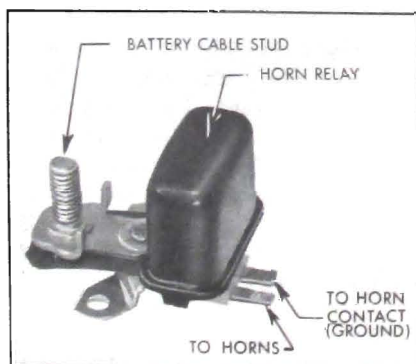

Figure 10-62—Horn Relay and Junction Block Assembly
3. If horns still do not blow when wire at mast jacket is grounded, unplug double connector from horn relay part of junction block assembly which is mounted on right fender skirt. See Figure 10-62. Then plug a known good